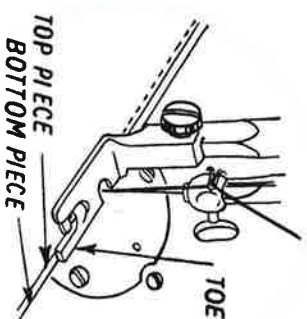

Fig. 29
2. Sew both pieces of cloth together, using the hemmer foot like a regular presser foot. Use the right edge of long toe of hemmer foot to guide the bottom piece of material, while the left edge of the same toe serves as a guide for the top piece of material. Fig. 29 shows this detail.